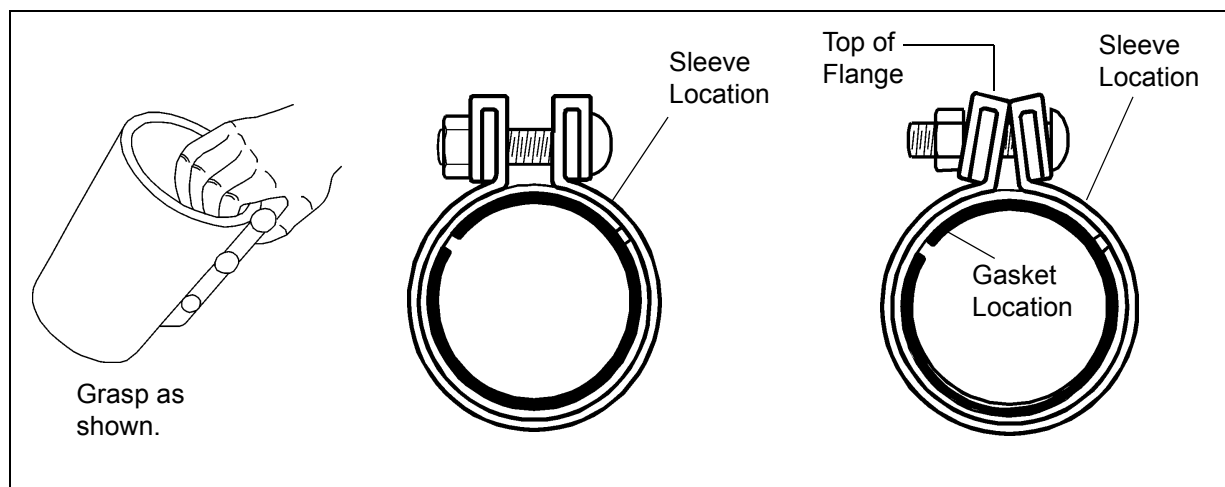

Figure 11A
1. Couplings are shipped ready-to-install... do not disassemble. To prevent gasket from slipping out of proper position, always grasp coupling as shown in Figure 11A. This will save time by maintaining proper position of gasket and sleeve in relation to shell and flange.
3. Grasp coupling as shown in Figure 11A to keep gasket and sleeve (and gasket protector when used) in separate quadrants, as shown in Figure 11A. Be sure gasket teeth mesh and do not overlap.
7. When properly and evenly tightened to the recommended torque the coupling installation is complete. The top edges of the flanges will touch and flanges appear as a vee when viewed from the end, as shown in Figure 11A. **DO NOT** attempt tightening bolts to flatten flange faces together, as this exceeds recommended limits.